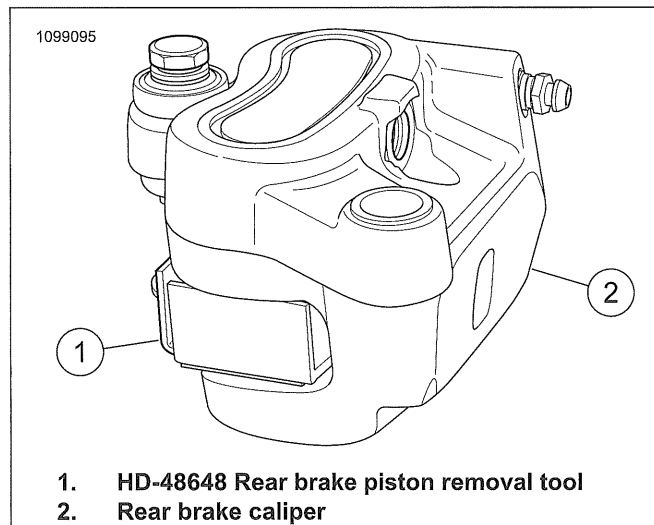
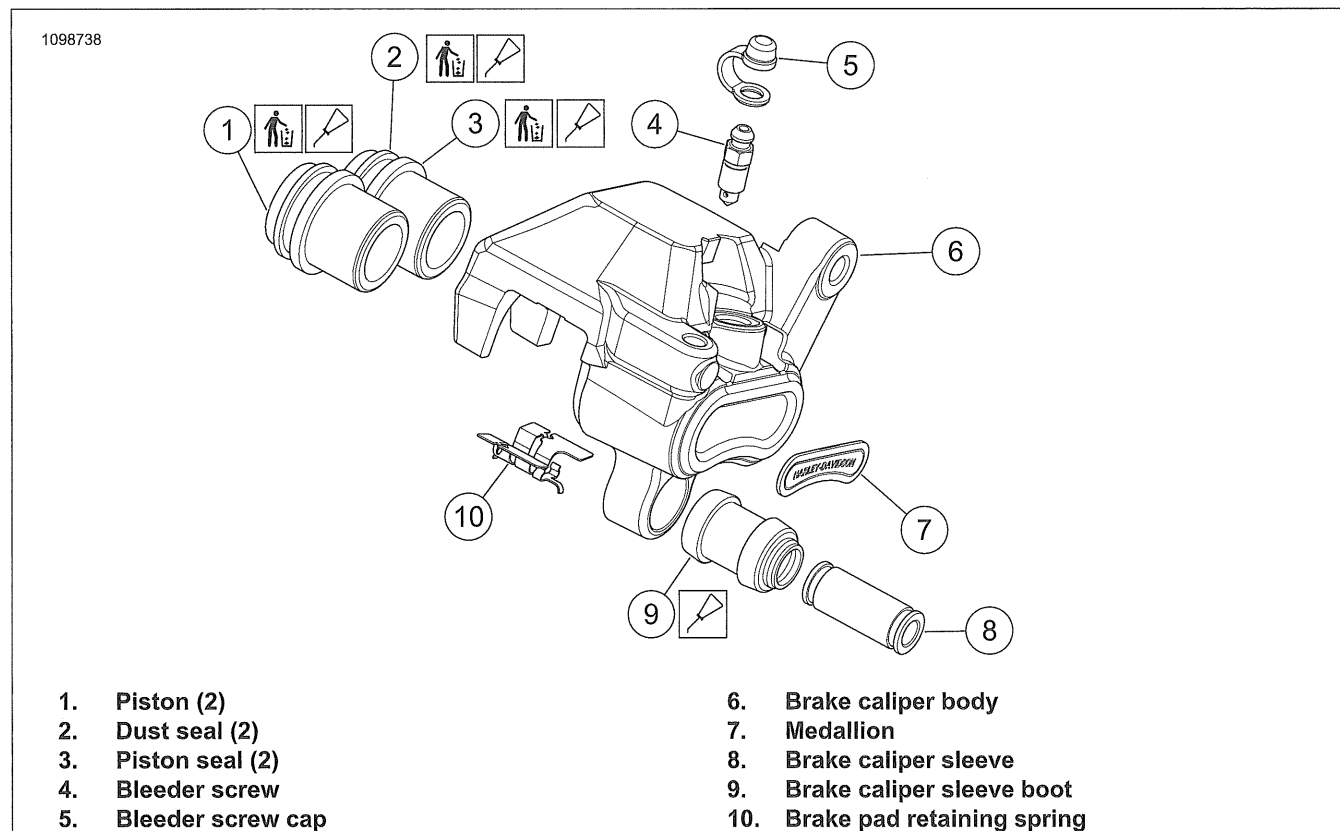

Figure 3-48. Caliper Piston Removal
Figure 3-49. Rear Brake Caliper Assembly
2. See Figure 3-49. Removal pistons (1).
b. Remove brake pad retaining spring (10).
c. See Figure 3-48. Using low pressure compressed air and removal tool, remove pistons and discard.
3. See Figure 3-49. Remove seals and discard.
a. Remove dust seal (2).
b. Remove piston seal (3).
4. Remove brake caliper sleeve (8).
5. Remove brake caliper sleeve boot (9).
6. Remove bleeder screw cap (5).
7. Remove bleeder screw (4).
8. Remove medallion (7).
1. See Figure 3-49. Install new medallion (7). See MEDALLIONS, BADGES, TANK EMBLEMS AND ADHESIVE STRIPS (Page 3-147).
2. Install bleeder screw (4). Hand tighten.
3. Install bleeder screw cap (5).
4. Lightly apply silicone grease to brake caliper sleeve boot (9).